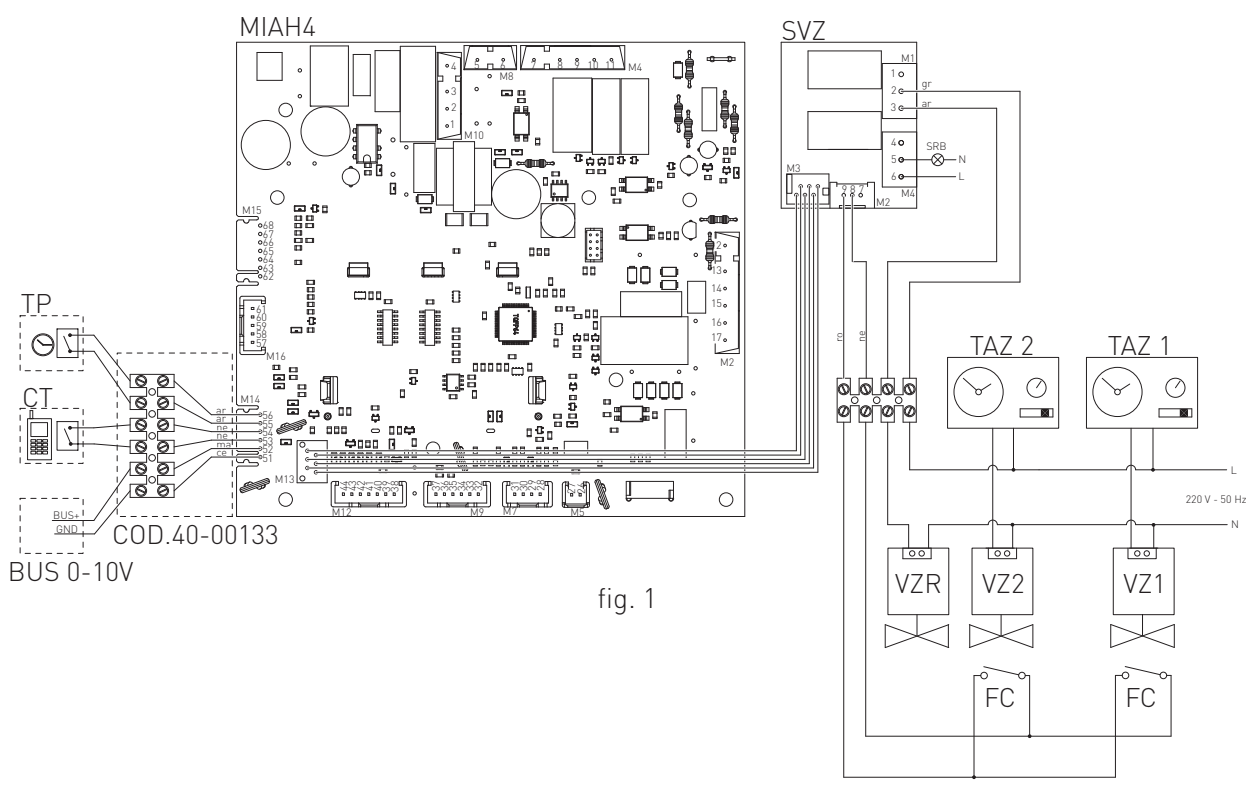

fig. 1
- › remove the front casing of the boiler (see chapter ACCESSING THE BOILER); unscrew the screws and remove plate "A" (see fig. 1).
- › After removing the plate, connect the electrical cables to terminal "B" (see fig. 1):
- > after removing the crankcase, connect the items below to the electronic board (see fig. 1):
- › The discharge duct must be perpendicular with the opposite internal wall of the chimney or of the fumes exhaust duct (fig. 1).
For this type of boiler are available the following fumes discharge configurations: B23P, B33, C13, C33, C43, C53, C63, C83 e C93 (see Fig. 1).